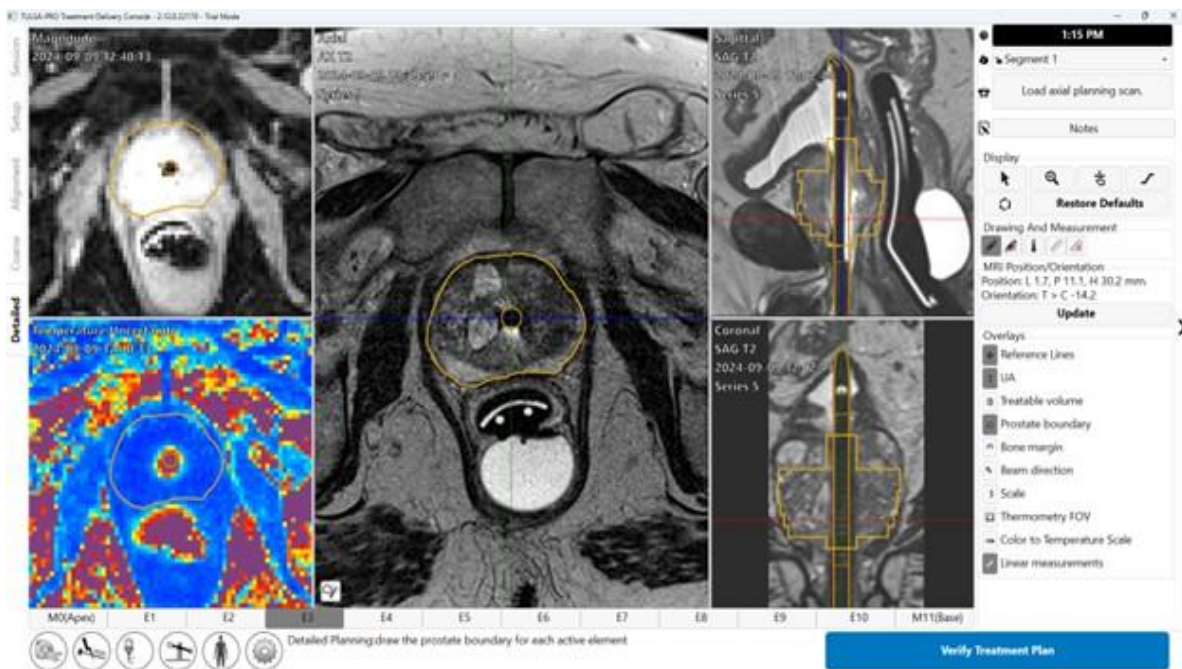

Figure 40: Detailed Planning after drawing boundaries
1. Draw or edit the boundary to outline the tissue to be ablated on each slice based on the corresponding AX T2 and THERM magnitude images (*Figure 40*). Tools to customize the boundary are described in the following *mpMRI Vision*, *Treatment Arc*, *TULSA-AI Volume Reduction (VR)*, and *Contouring Assistant*. You can select individual slices by clicking on the numbered tab at the bottom of the screen or by pressing the left and right arrow keys on the keyboard. Use the sagittal and coronal views of the SAG T2 images to verify the intended ablation zone in three dimensions.